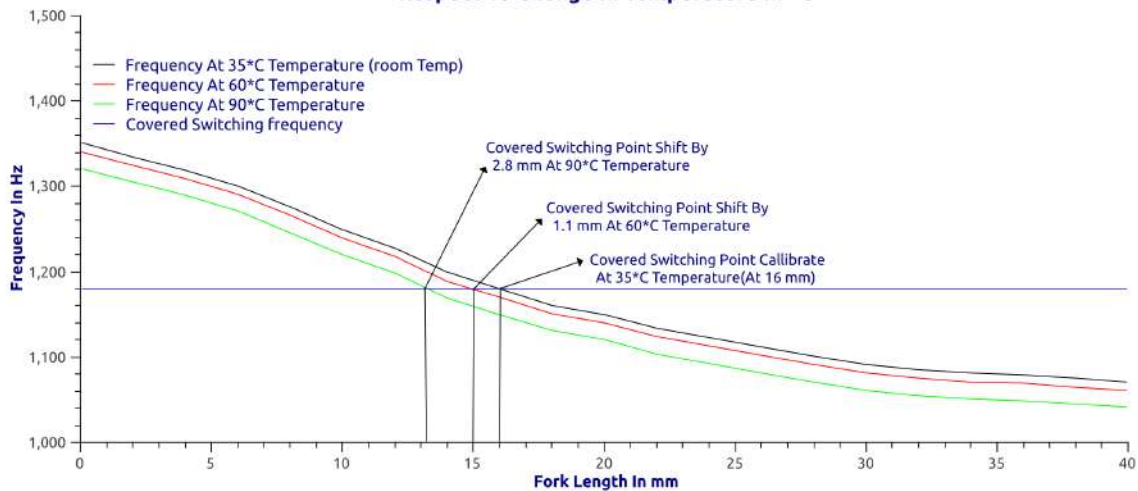

Figure 4: Influence of Process Temperature on Switching Point
2. **Process Temperature** - The influence of temperature on switching point of the device is described in Figure 4.